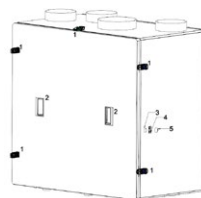

Fig. No 3. KCX+ in working position.
The front cover is removed by unfastening 5 pressure locks (1). At the same time, hold the cover by the handles (2) - markings as shown in Fig. No. 3.
Markings according to Fig. No. 3: